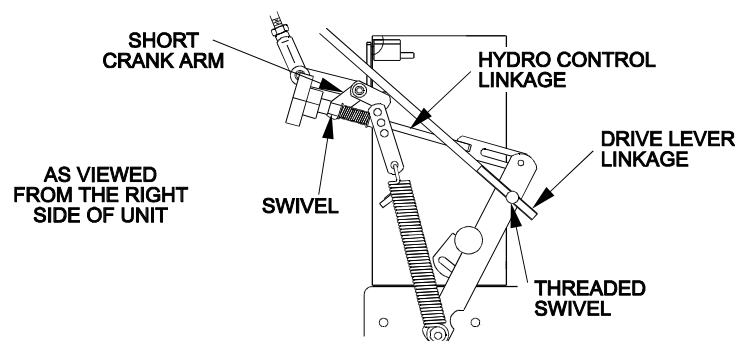
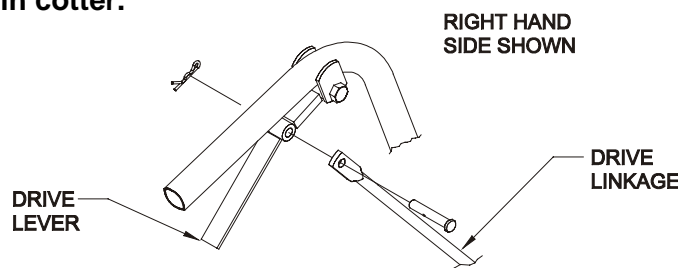

FIG. 3
FIG. 4
- Install a 5/16" SAE washer and fasten with a 3/32" x 1/2" cotter pin from bolt bag. Repeat on opposite side of unit (See Figure 3).
- 3.15 Thread each drive linkage into the threaded swivel. (See Figure 3). Connect the upper end of each drive linkage to the drive levers. Fasten with a long clevis pin and hairpin cotter from bolt bag. Be sure the clevis pin is first inserted through the drive linkage and then through the drive lever from the outside before installing the hairpin cotter (See Figure 4).